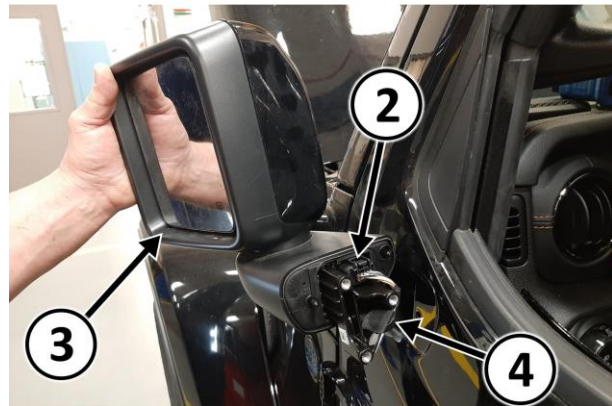

Figure 1 – Exterior Mirror
1. Lower the door glass so that the exterior rear-view mirror (3) can be reached and supported during removal (Figure 1).
2. Remove the three bolts (1) securing the exterior mirror (3) to the door (Figure 1).
3. Release the tape (4) securing the wire harness then disconnect the electrical connector (2) from the exterior mirror (3). Remove the mirror from the vehicle (Figure 1).